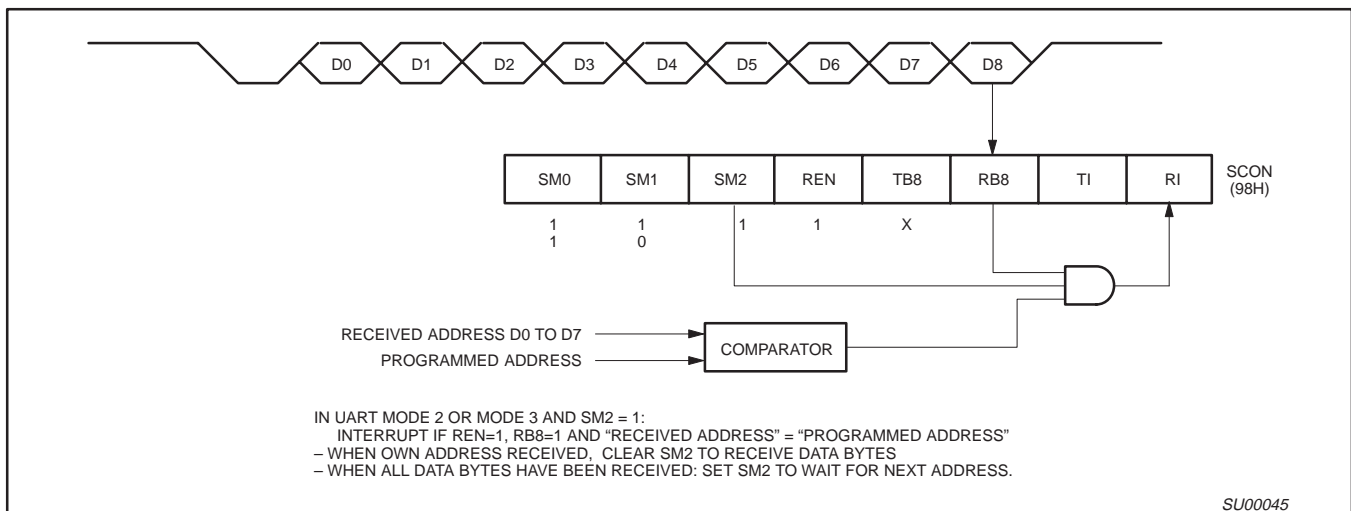

Figure 9. UART Multiprocessor Communication, Automatic Address Recognition
hardware to make the comparisons. This feature saves a great deal of software overhead by eliminating the need for the software to examine every serial address which passes by the serial port. This feature is enabled by setting the SM2 bit in S0CON. In the 9 bit UART modes, mode 2 and mode 3, the Receive Interrupt flag (RI) will be automatically set when the received byte contains either the “Given” address or the “Broadcast” address. The 9 bit mode requires that the 9th information bit is a 1 to indicate that the received information is an address and not data. Automatic address recognition is shown in Figure 9.